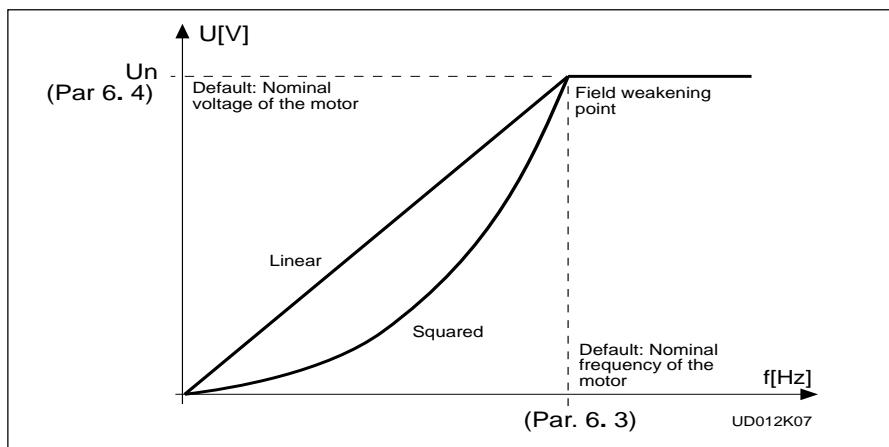

Figure 3.4-1 Linear and squared U/f curves.
- Linear: The voltage of the motor changes linearly with the frequency in the constant flux area from 0 Hz to the field weakening point (par. 6. 3) where the nominal voltage is also supplied to the motor. See figure 3.4-1.
- Squared: The voltage of the motor changes following a squared curve form with the frequency in the area from 0 Hz to the field weakening point (par. 6. 3) where the nominal voltage is also supplied to the motor. See figure 3.4-1.